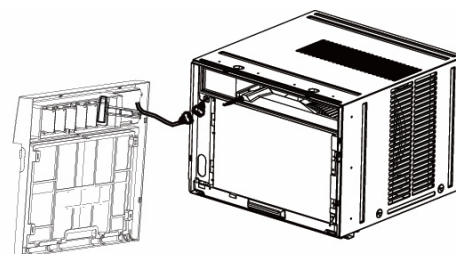

Fig.4
6. Disconnect the plug of the display panel from the unit and place the front panel to the side. (Figure 4)